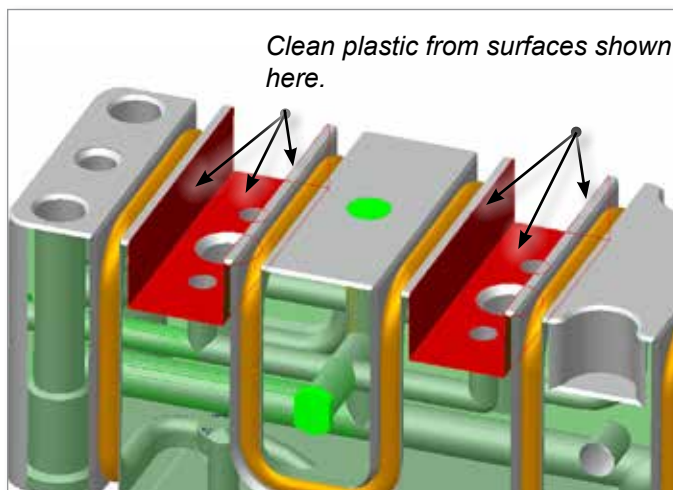

Figure 19-9 Remove plastic residue from surfaces
1. Clean any plastic residue from hot runner interface surfaces. See Figure 19-9.